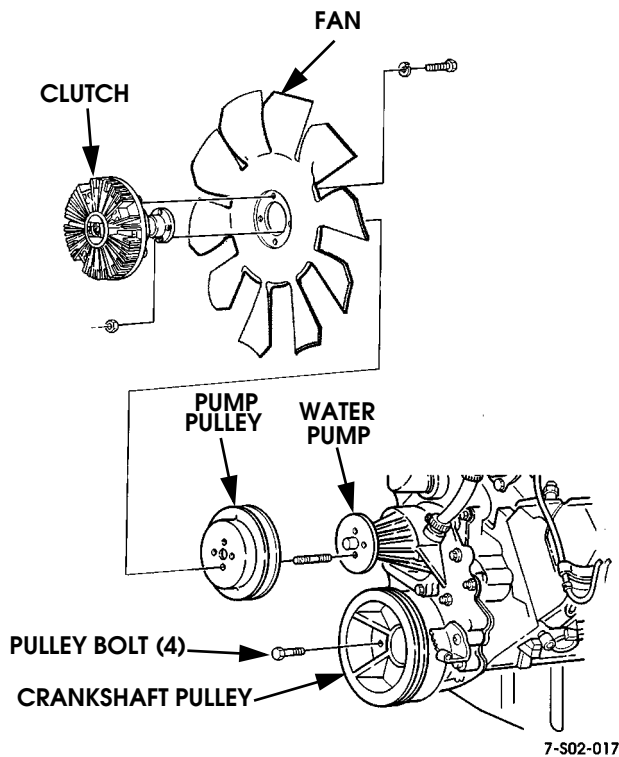

Figure 2-80: Fan and Pulley Removal
2. Remove fan, clutch and water pump pulley (Figure 2-80).
3. Remove crankshaft pulley attaching bolts and remove pulley (Figure 2-80).